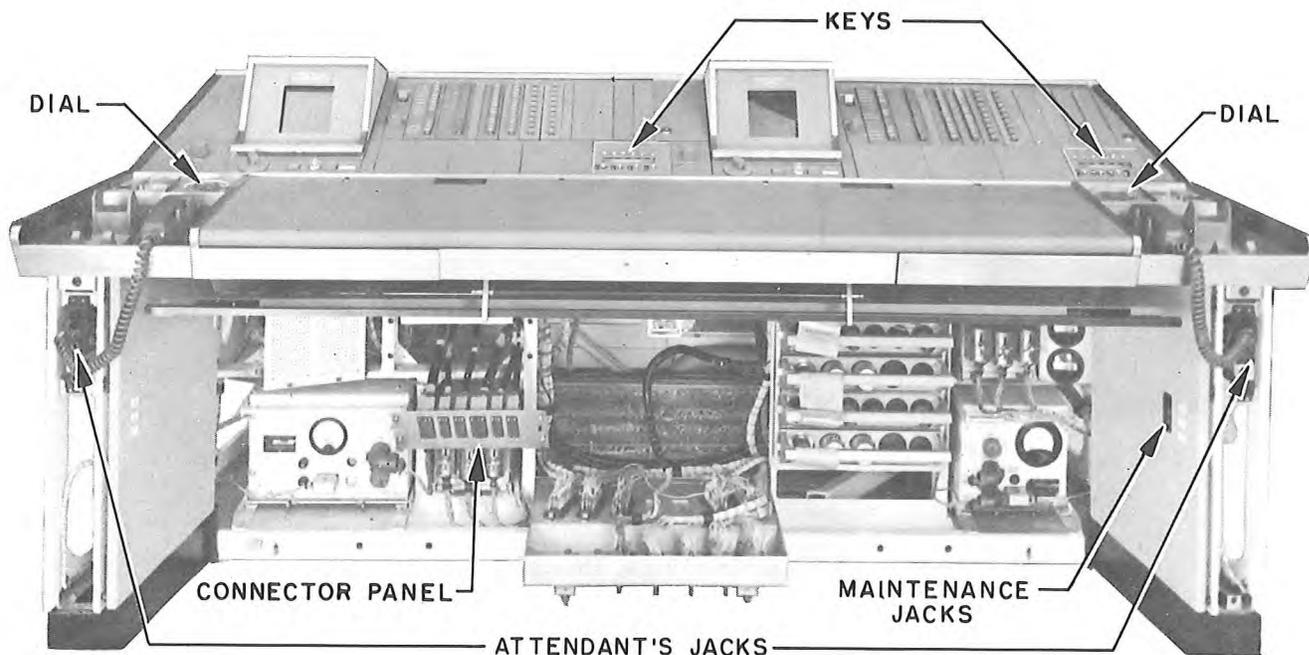

Fig. 29 - Staff Desk, Front View
9.00 CONSOLE, COMMAND POST, STAFF DESK (Fig. 29, 30, 31)